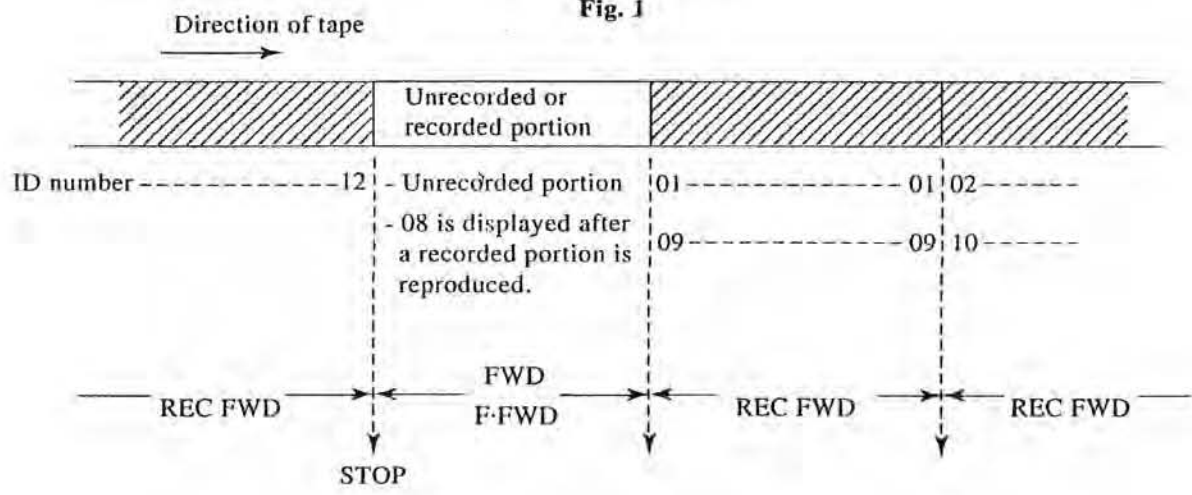

Fig. 2
- d) If there is an unrecorded portion of tape during continuous recording, and the power is turned off, the ID number for the next recording is 01. (See Fig. 2.)
Recording then starts from the portion with the ID number of [display value +1] after REC FWD is performed. (See Fig. 2.)
- h) When an attempt to continue an ID number by eliminating the unrecorded portion as shown in Fig. 2, rewind the tape, stop it just before the end of the portion with ID number 12, and perform REC FWD.